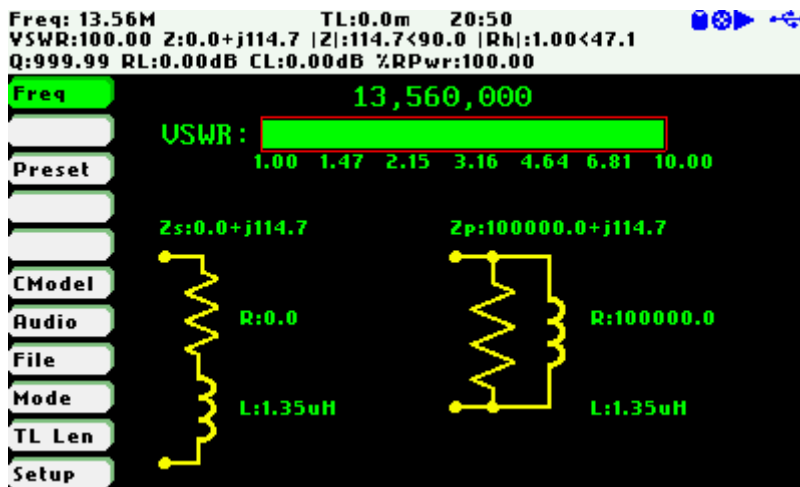

Figure 5, Single Frequency mode
- Step 4. Select «CModel» in the main menu (Figure 5)